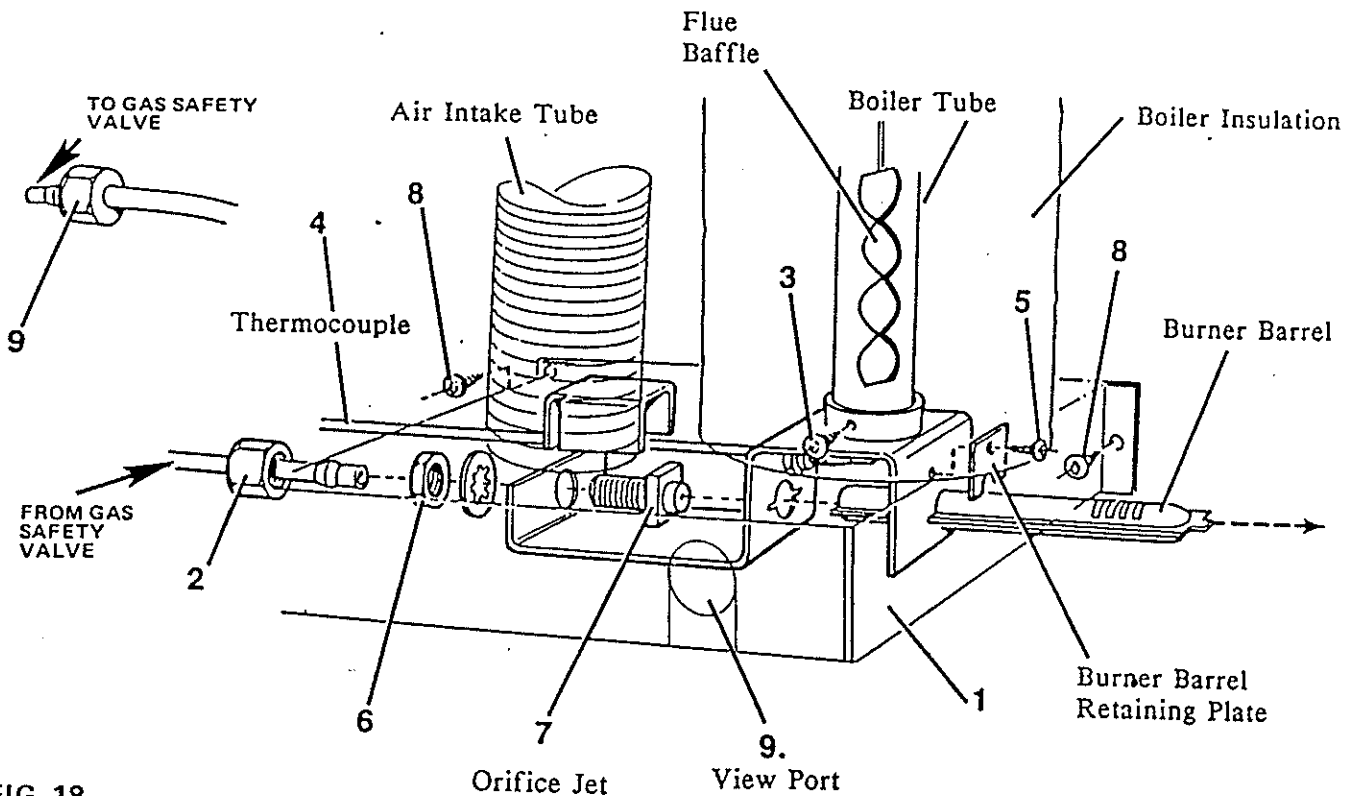

FIG. 18
Once or twice a year, look through the flame viewing opening (FIG. 18, Page 15) in the burner box and examine the appearance of the burner flame which should be predominantly blue in color when the gas thermostat knob is set at "MAX". If this is not the case, the flue, burner, and jet, etc. should be cleaned as follows:
A stainless steel baffle (FIG. 18, Page 15) is located in the flue tube of the boiler of the cooling unit to correctly distribute heat from the burner. The baffle is suspended on a length of stainless steel wire from the top of the flue tube, and is positioned so that the bottom edge of the baffle is 3" (76mm) above the bottom of the flue tube.
5. With a phillips screwdriver, remove the 2 screws (8, Fig. 18), then, from the rear, carefully withdraw the burner box (1) with the flexible air intake tube attached to it, and clean the inside of the burner box of soot and other deposits.
6. Unscrew the gas pipe union nut (9) then, pushing the boiler insulation upward sufficiently to give access, undo the screw (3), releasing the burner assembly from the bottom of the boiler tube.
7. Taking care not to strain the thermocouple tube (4), drop the burner assembly away from the boiler tube and pull it carefully away from the boiler, just far enough to give access for the following operations.
8. Remove the screw (5) from the burner barrel retaining plate, then withdraw the burner barrel. Examine and clean the burner barrel by brushing and blowing it out with air.
9. Disconnect the gas pipe union (2) and then the lock-nut (6) which will enable the jet (7) to be removed. Clean the jet by washing it in alcohol and blowing it through with air.